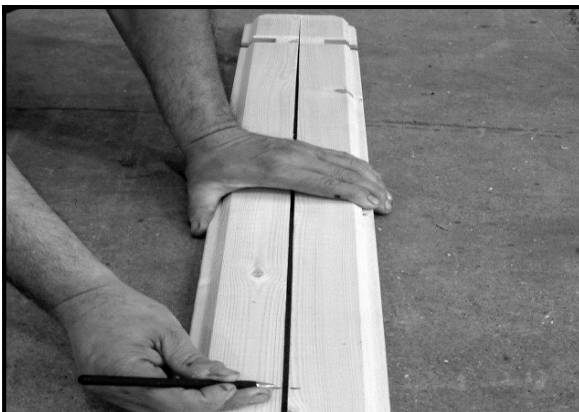

Fig D3
- Place the 'A1' logs against each other and transfer all the lines across (fig D3).